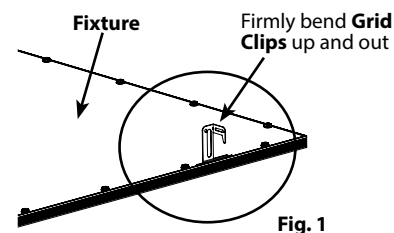

Fig. 1
1. Firmly bend the pre-installed **Grid Clips** (6) up and out as shown in Fig. 1.